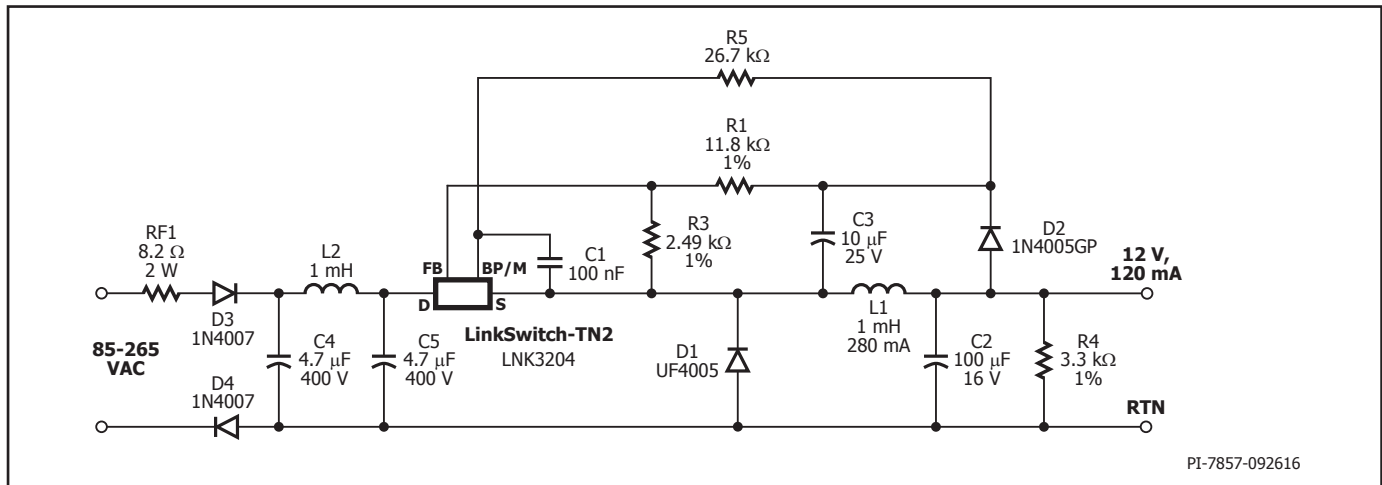

Figure 8. Universal Input, 12 V, 120 mA Constant Voltage Power Supply using LinkSwitch-TN2.
The circuit shown in Figure 8 is a typical implementation of a 12 V, 120 mA non-isolated power supply used in appliance control such as rice cookers, dishwashers or other white goods. This circuit may also be applicable to other applications such as night-lights, LED drivers, electricity meters, and residential heating controllers, where a non-isolated supply is acceptable.
Regulation is maintained by skipping switching cycles. As the output voltage rises, the current into the FEEDBACK pin will rise. If this exceeds  $I_{FB}$  then subsequent cycles will be skipped until the current reduces below  $I_{FB}$ . Thus, as the output load is reduced, more cycles will be skipped and if the load increases, fewer cycles are skipped. To provide overload protection if no cycles are skipped during a 50 ms period, LinkSwitch-TN2 will enter auto-restart, limiting the average output power to approximately 3% of the maximum overload power. Due to tracking errors between the output voltage and the voltage across C3 at light load or no-load, a small pre-load may be required (R4). For the design in Figure 8, if regulation to zero load is required, then this value should be reduced to 2.4 k $\Omega$ .
Referring to Figure 8, the following considerations may be helpful in selecting components for a LinkSwitch-TN2 design.
Figures 9a, 9b and 9c are printed circuit board layout design examples for the circuit schematic shown in Figure 8. The loop formed between the LinkSwitch-TN2, inductor (L1), freewheeling diode (D1), and output capacitor (C2) should be kept as small as possible. The BYPASS pin capacitor C1 should be located physically close to the SOURCE (S) and BYPASS (BP) pins. To minimize direct coupling from switching nodes, the LinkSwitch-TN2 should be placed away from AC input lines. It may be advantageous to place capacitors C4 and C5 in-between LinkSwitch-TN2 and the AC input. The second rectifier diode D4 is optional, but may be included for better EMI performance and higher line surge withstand capability.